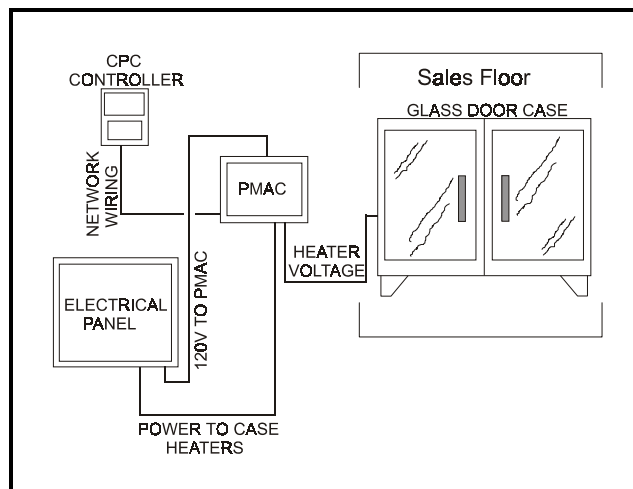
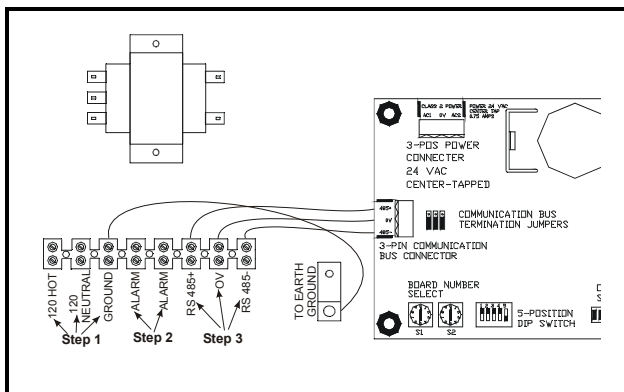
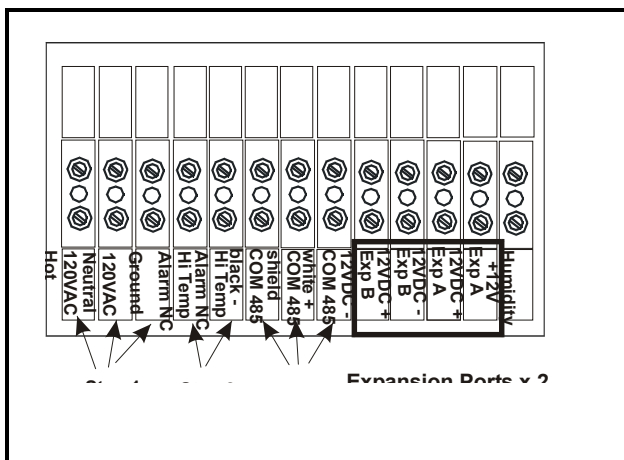
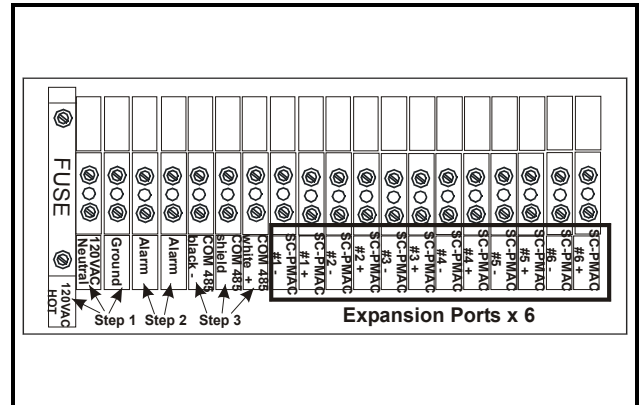

Figure 2-3 - Typical Layout
Figure 2-5 - Wiring Detail for 16 Channel
Figure 2-6 - Wiring Detail for 20 Channel
Figure 2-7 - Wiring Detail for 28 Channel
The following steps provide location and wiring instructions for the PMAC II panel. **Figure 2-3** shows this typical layout. **Figure 2-5** shows the PMAC II internal wiring connections.
2. Provide 120 VAC (15 amp circuit) to the PMAC II panel through a store circuit breaker. See the layout design in **Figure 2-3**.
4. Connect the PMAC II panel 8DO board to the existing RMCC or BEC COM A or COM D network, as shown in **Figure 2-5**, using a Belden #8761 (two-conductor, shielded, 22AWG) or equivalent communication cable.
1. Provide 120VAC (15 amps circuit) to the PMAC terminal block through a store circuit breaker. Wire **120VAC Hot**, **120 VAC Neutral**, and **Ground** as indicated by the **Step 1** arrows of **Figure 2-5** for the 16 Channel, **Figure 2-6** for the 20 Channel, and **Figure 2-7** for the 28 Channel.
2. A normally closed alarm contact is provided on the terminal strip as indicated by the **Step 2** arrows of **Figure 2-5** for the 16 Channel, **Figure 2-6** for the 20 Channel, and **Figure 2-7** for the 28 Channel.
3. **Step 3** of **Figure 2-5** for the 16 Channel, **Figure 2-6** for the 20 Channel, and **Figure 2-7** for the 28 Channel indicates the terminal block positions to wire the Emerson 485 I/O Network. Polarity must be respected while making these connections.
The 20 Channel PMAC has two expansion ports (**Figure 2-6**), and the 28 Channel PMAC has six single expansion ports (**Figure 2-7**). These expansion ports can be used to attach single channel PMACs if desired (*P/N 851-1010*).